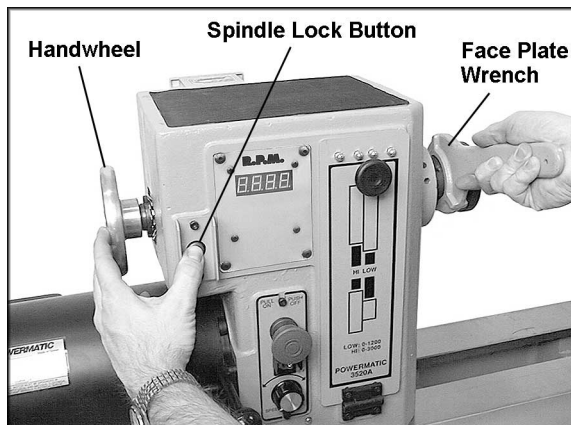
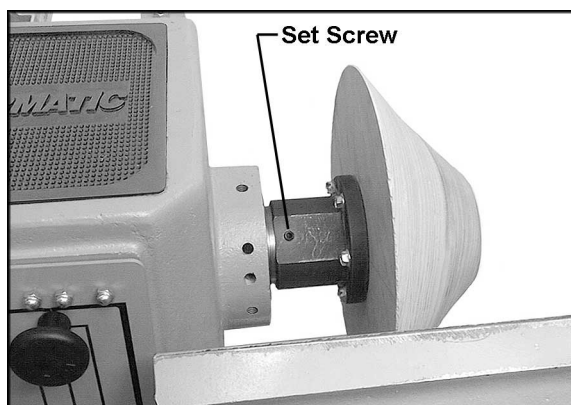

Figure 21
Figure 22
- Push in the spindle lock button (Figure 21) and rotate the handwheel slightly until the spindle locks. Keep the spindle lock button pushed in.
⚠ WARNING If at any time you will be *reversing* spindle rotation, make sure the two set screws in the face plate are tight! One of these is shown in Figure 22. Failure to do this may cause the face plate to loosen from the headstock spindle.
- To *remove* the face plate, loosen the two socket set screws (Figure 22). Engage the spindle lock button and turn the face plate counterclockwise with the face plate wrench, as shown in Figure 21.
⚠WARNING When turning with a face plate, make sure both set screws on the face plate are tight (see Figure 22) before reversing the spindle. Failure to comply may cause the face plate to spin loose from the spindle.